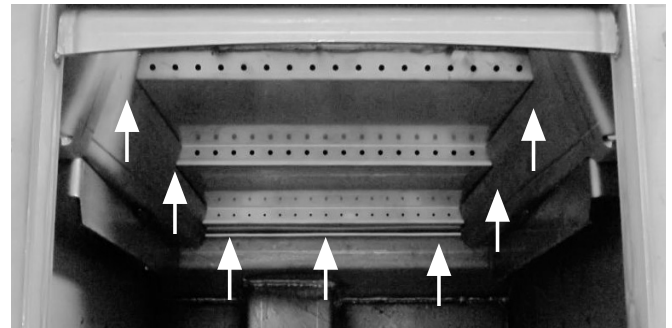

Figure 33. Verify manifold is seated properly
13. Resecure the secondary air manifold with turbulator to the stove. Use the 10mm open-end or socket wrench to install the (2) M6x16 bolts into rear of stove.
14. Looking through the front door, verify the lip of the manifold is inside firebox air channel and that the manifold is contacting the gasket evenly. Ensure that the gasket is not hanging down. The manifold should rest evenly on both side supports. Readjust manifold if necessary. See fig. 33.